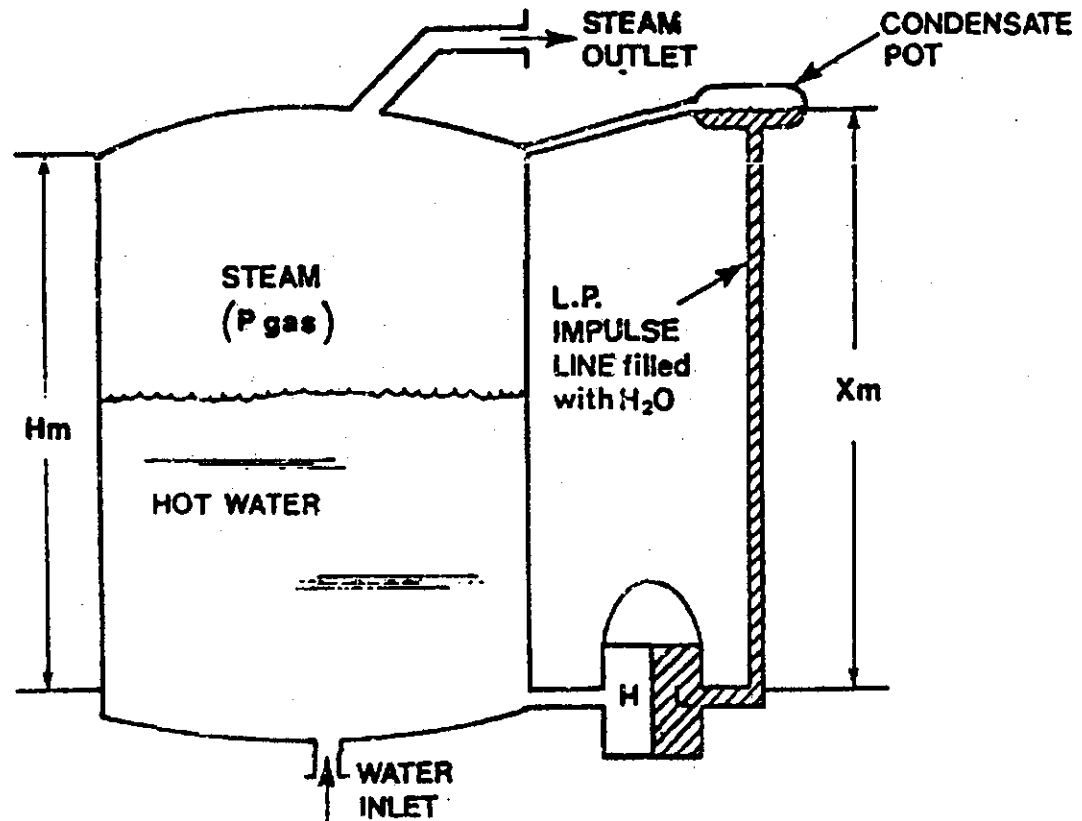

Figure 7: Simplified Wet Leg Installation.
- Note that (see Figure 7), the height of the wet leg (X) is always equal to or greater than the maximum height of the liquid column (H) inside the tank.